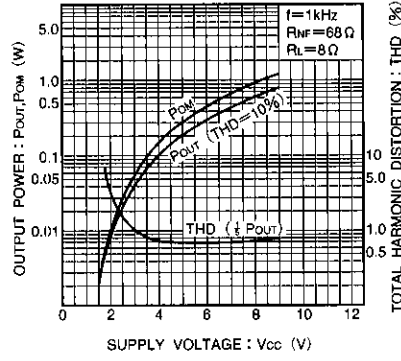

Fig. 2 Rated and max. output power and total harmonic distortion vs. supply voltage
- 1) High output. POUT = 330mW (Vcc = 6V and an 8 Ω load (THD = 10%)). See Fig. 2.